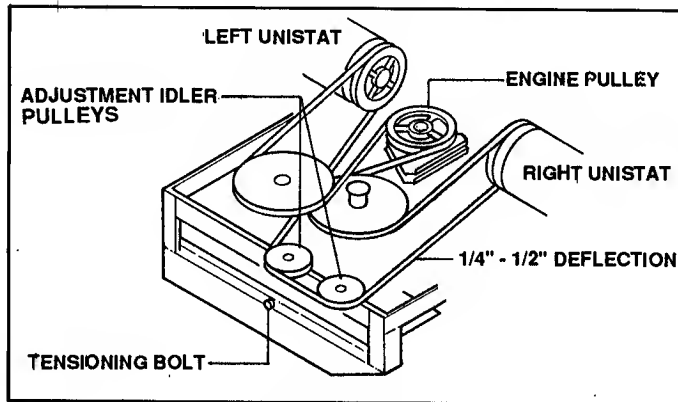

FIGURE 8.5
The following procedures for adjusting drive belt tension apply ONLY to those units having one (1) drive belt as shown in Figure 8.5.
- (a) Loosen the two (2) nuts holding the adjustment idler pulleys approximately one turn. This should allow the pulley idler slide to be just moved relative to the mounting bracket.